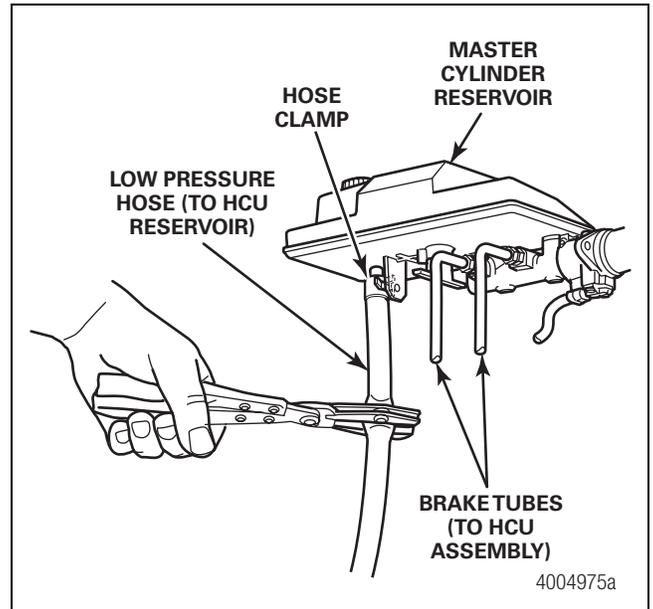

Figure 4.36
- 7. Attach a pinch clamp to the low pressure hose near the outlet of the master cylinder reservoir. Do not damage the reservoir outlet. Figure 4.36.